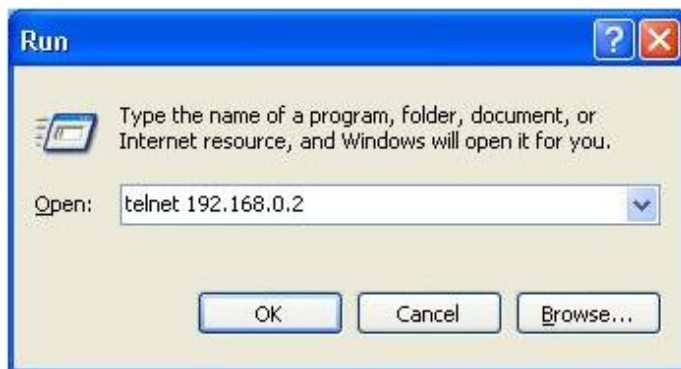

Figure 16 Access through Telnet
2. Input "*IP address*" in the browser address bar (Default IP: 192.168.0.2). After opening the login dialog box, enter the default user name (admin) and default password (123) to successfully log in to the device Web management page.
Step 2: Enter "telnet IP-address" in the Run dialog box, as shown in Figure 16. The default IP address of a Kyland switch is 192.168.0.2.